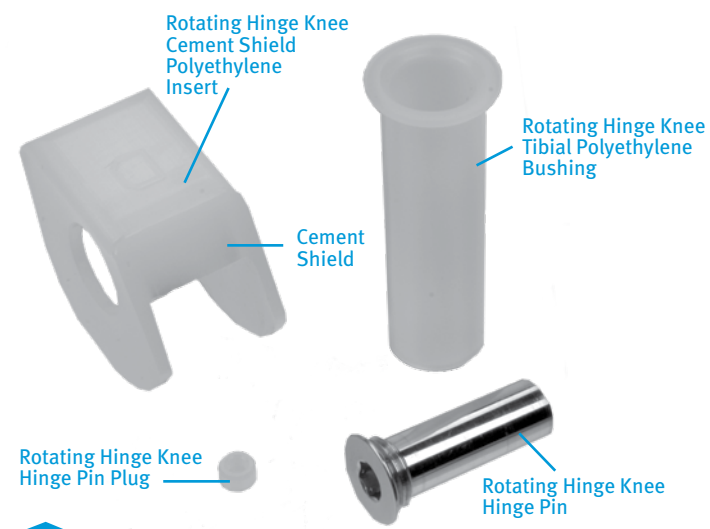

Fig. 142
- Verify that the appropriate size Segmental Articular Surface and NexGen RH Knee Cement Shield Service Kit (Fig. 142) is used (Appendix H).
Warning: Do not use the Segmental Polyethylene Insert with the NexGen RH Knee Distal Femoral Component. Only the items shown in Fig. 142 are to be used with the Segmental Hinge Post when it is being implanted with a NexGen RH Knee Distal Femoral Component (refer to Appendix H).